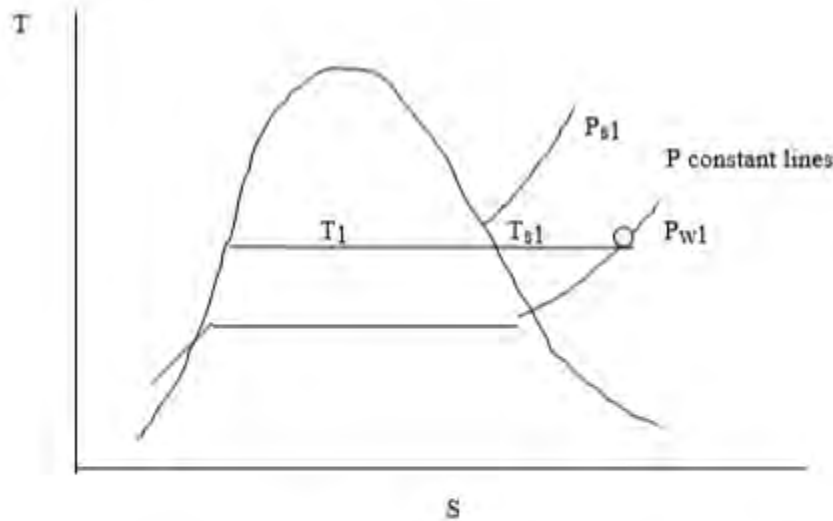

Fig. 1. T-S water diagram showing the constant pressure lines
This concept can be easily represented in a T-S water diagram of fig. 1
As the vapor pressure of the air (P_{w1}) approaches the saturation point at T_1 (P_{s1}), the relative humidity RH approaches 100%. Please refer to the equation (1) and fig. 1 to understand this concept.